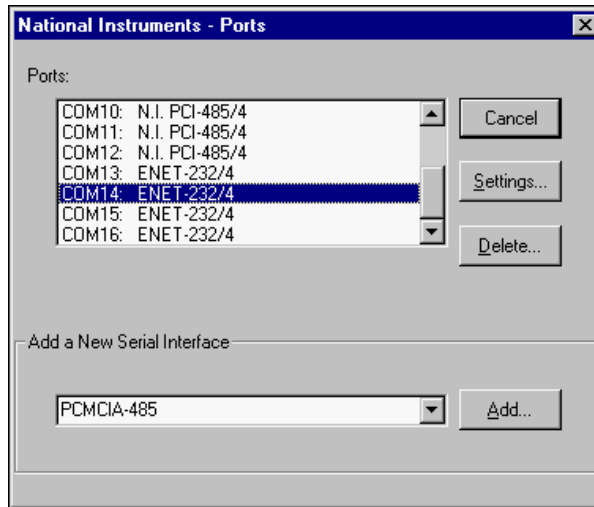

Figure 4-4. NI Ports Serial Configuration Utility
2. Select **Start»Settings»Control Panel»NI Ports**. A list of installed National Instruments ports appears, as shown in Figure 4-4.